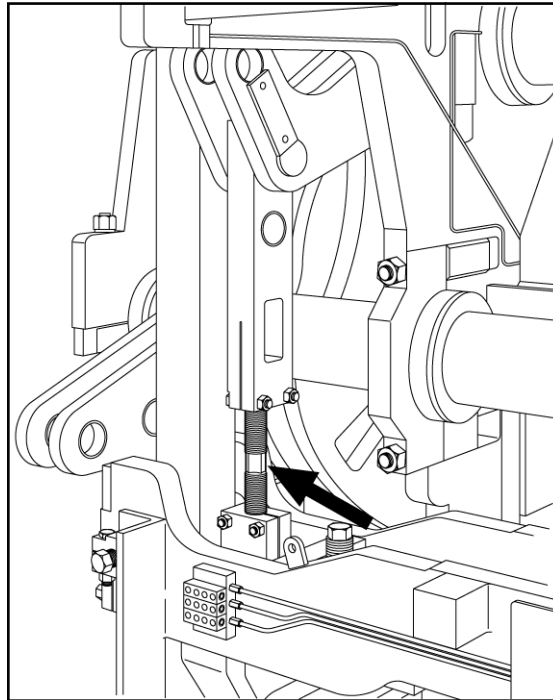
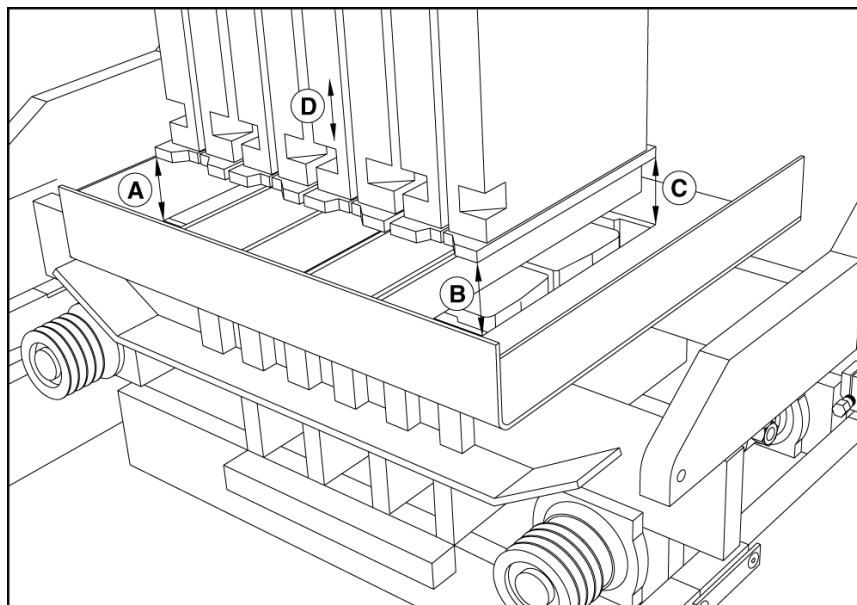
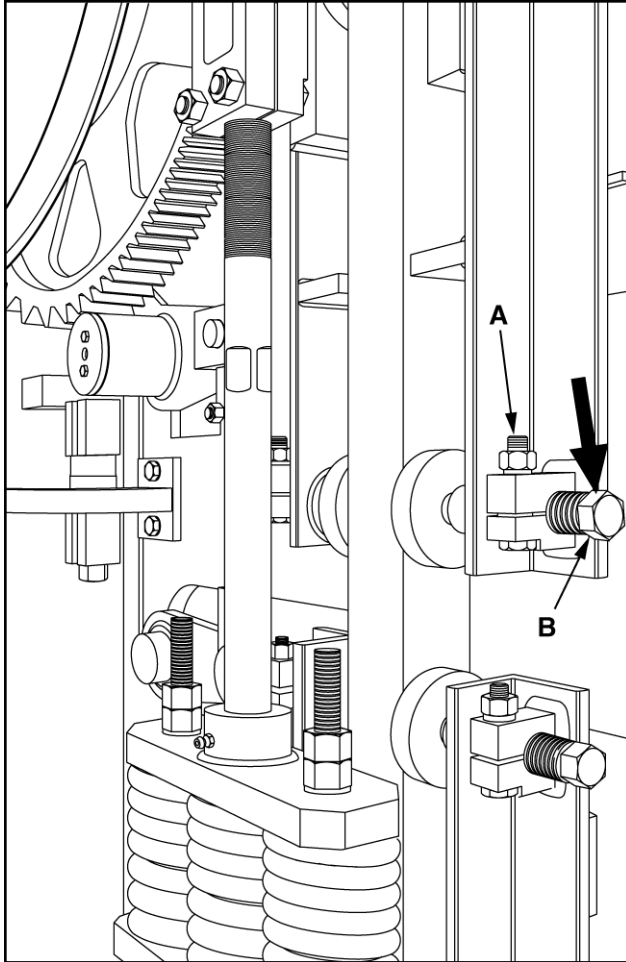

Figure 5.29 L.H. STRIPPER HEAD LINK
Figure 5.30 STRIPPER SHOES POSITION
Figure 5.31 LOWER GUIDE LINER ADJUSTMENT SCREW
5.7.2 To determine if the head is level with mold (left to right and front to back), measure how far the bottom of the stripper shoes are above the mold end liners at all 4 corners (A, B, C and D) (see figure 5.30).
5.7.3 If the head is not levelled side to side (A to B) (see figure 5.30), adjust the left hand stripper head adjusting link (see figure 5.29).
- 5.7.4 If the stripper head is not level (B to C) (see figure 5.30) with the mold from front to back, back out both lower guide liner adjusting screws on the stripper head frame at the slide shaft on the left hand side of machine (see figure 5.31). Loosen nut (A) and adjust with bolt (B).
- 5.7.6 After head is level with mold, tighten both adjustment screws against the slide shaft on the left hand side (see figure 5.31). Then loosen the front adjustment screws 1/4 of a turn and tighten clamp bolts.